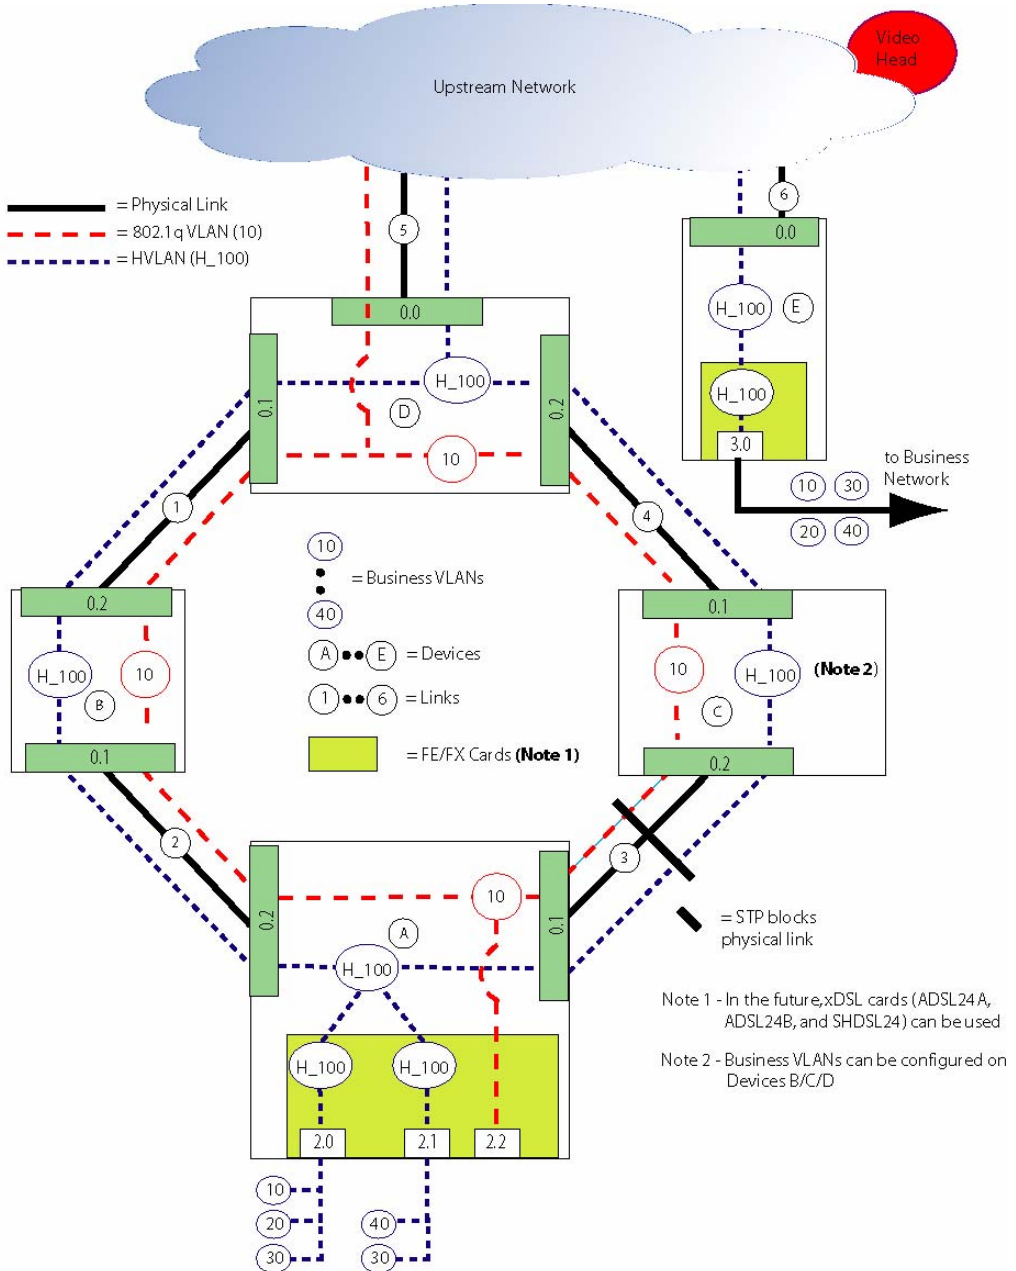

FIGURE 16-1 Port-based HVLAN Configuration for Release 6.0
Figure 16-1 shows a possible configuration where both 802.1q and HVLANs are created. The 802.1q VLAN (10), is used for multicasting for video. The HVLAN is provisioned for a business customer who has their own network and wishes to connect this network to devices on fMAP systems.
For the configuration shown in Figure 16-1, each 9400 is configured as follows: